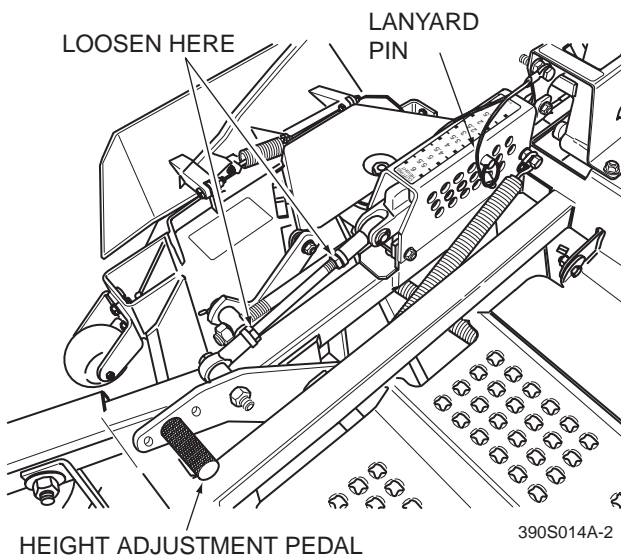
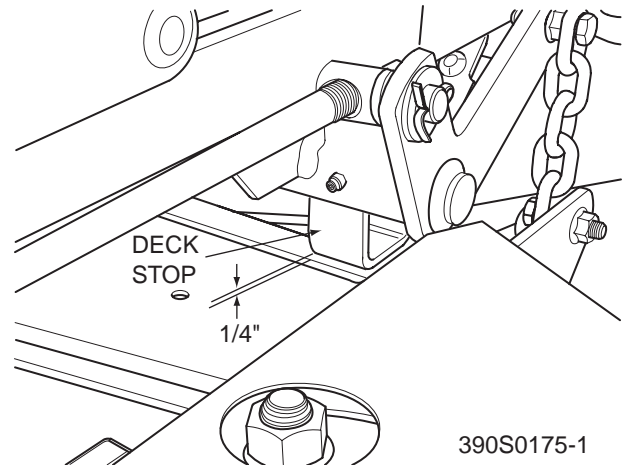

Figure 6-7. Cutter Deck Height Adjustment
Figure 6-8. Cutter Deck Stop
1. Place the cutter deck in the transport position. Loosen the jam nuts on both ends of the deck height control rod. See Figure 6-7.
2. Turn the control rod, (See Figure 6-7), until there is a 1/4" space between the rear deck stop and the top of the cutter deck. See Figure 6-8. Tighten the jam nuts on the control rod.
4. Check the measurement from the floor to the cutter blade tip. If the measurement is not at 3", an adjustment can be made using the deck height control rod. See Figure 6-7.